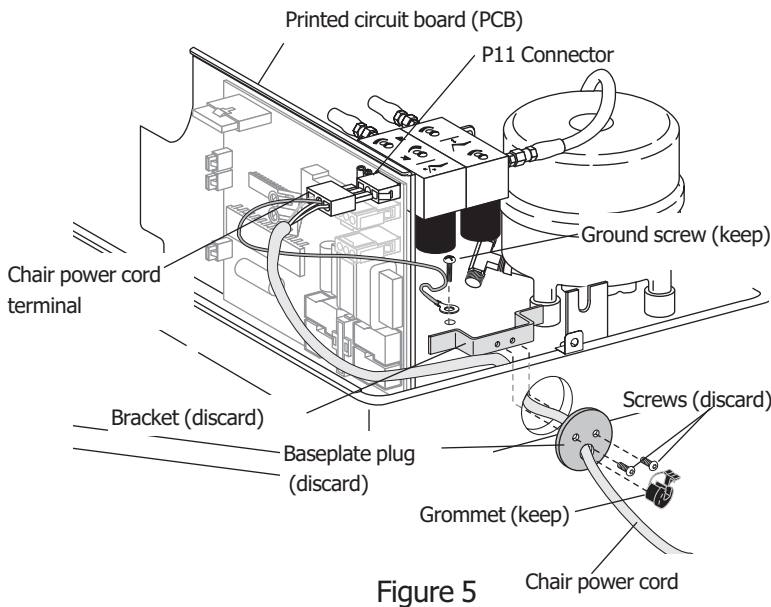

Figure 5
- Disconnect the power cord from the chair-printed circuit board (PCB) (see Figure 5).
- Remove the ground screw securing the power cord to the motor housing (see Figure 5). Keep the ground screw.
- Remove the grommet securing the power cord to the baseplate plug (see Figure 5). Keep the grommet.
- Remove the screws and bracket securing the baseplate plug to the baseplate (see Figure 5). Discard the bracket, baseplate plug, and screws.